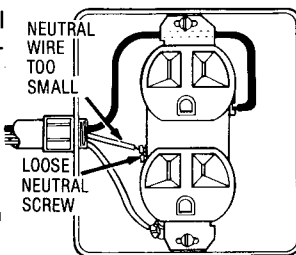

Figure 38
- Loose neutral (silver) screw on the outlet (Fig. 38).
- Neutral wire sized too small (Fig. 38).